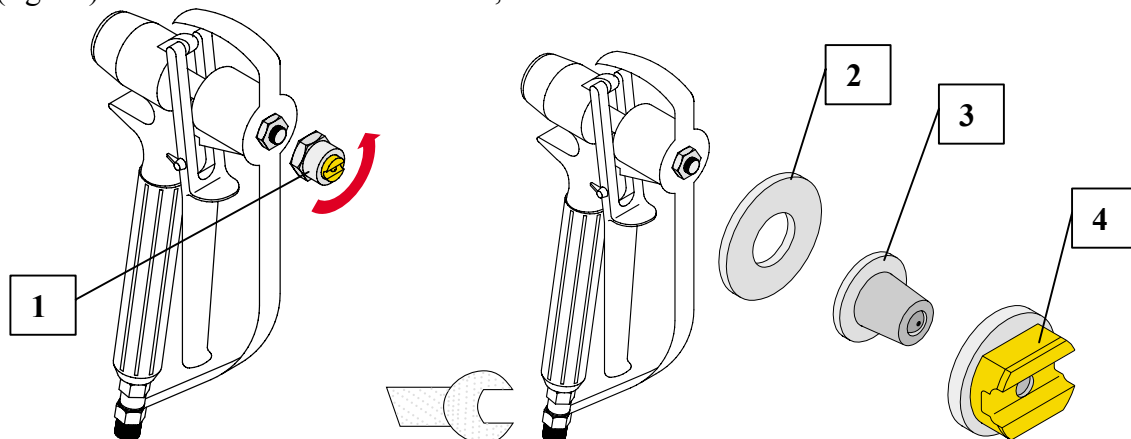

Fig.47
2) Remove the nozzle of the gun by loosening the screw and removing the nylon washer (fig. 47). Clean the nozzle with solvent, thinner and a brush.